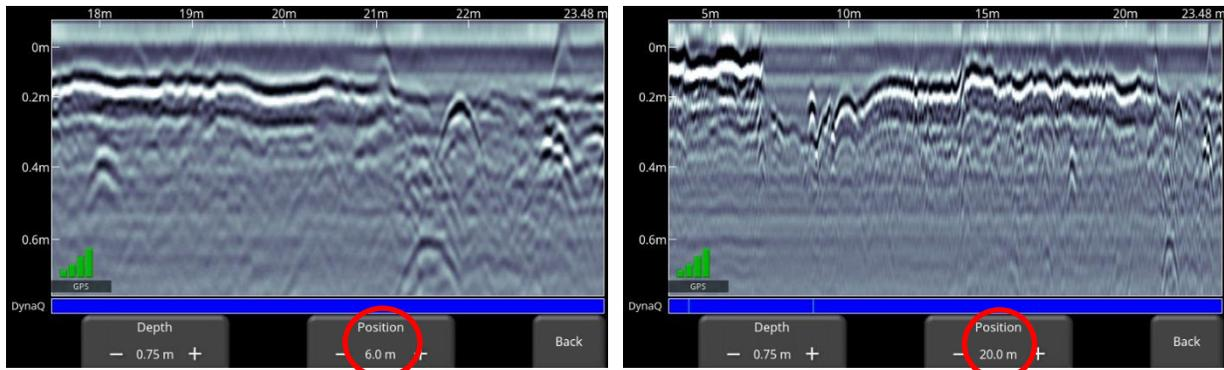

Figure 7-12: Varying the position, or horizontal scaling
- **Position** – Pressing + and - under the **Position** button allows you to change the length of data display on a single screen. This is also known as horizontal scaling. One reason for setting this higher would be to fit more data on the screen and look for consistency among hyperbolas that were crossed (Figure 7-12).